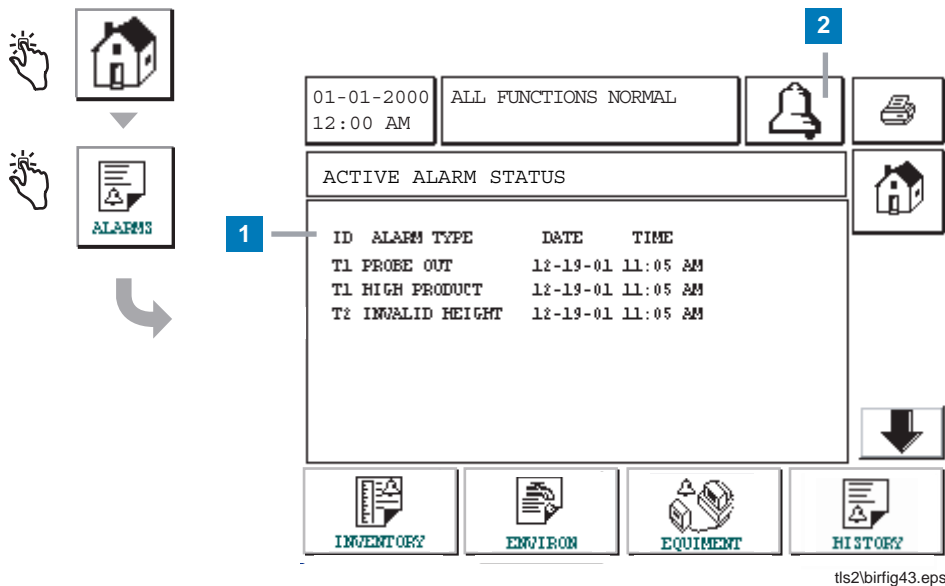

Figure 17. Active Alarm Screen
When an alarm goes active, the console's internal beeper activates, the alarm relay activates (if enabled), the front panel LED flashes red, and the Message Window (item 1 in Figure 17) displays an alarm message. In the case of multiple alarms, the Message Window will automatically scroll through the active alarms. In the case of an alarm assigned to auto dial, the console dials out and establishes a connection with the remote host. The host can then send requests to the console to determine the reason for the call.
When an alarm is active, the user can turn the beeper off and deactivate the alarm relay by touching screen's the ALARM Button (item 2 in Figure 17). The front panel LED will stay in the ALARM state and the alarm will remain in the active alarm list until the alarm returns to normal state. If the alarm is inactive but not acknowledged, it will remain in the alarm list and the beeper and alarm relay (if enabled) will remain active until it is acknowledged.